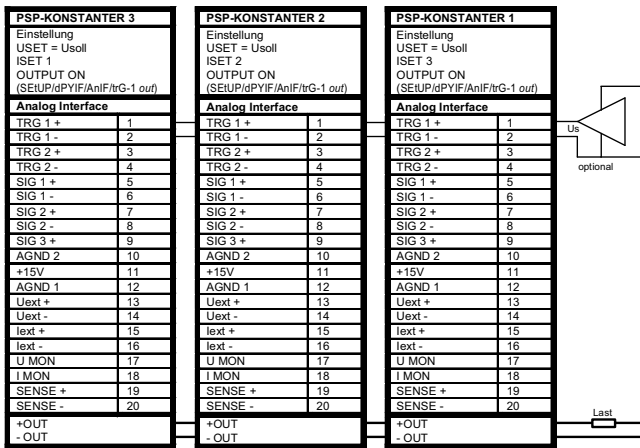

Figure 7.9.1a Wiring for Direct Parallel Connection
- The outputs can be activated and deactivated commonly by connecting the trigger inputs in parallel (see figure 7.9.1a, optional connection) or series (setting: "SetUP/dPYIF/AnIF/trG-1 out").